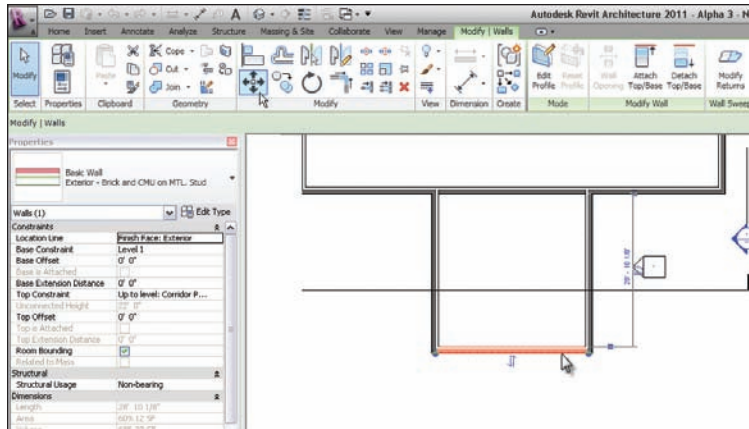

FIGURE 4.1 Select the wall to be moved. The Move button now appears on the Ribbon.
3. Select the south wall of the bump-out at the south side of the west wing, as shown in Figure 4.1.
4. On the Modify | Walls tab, you will see the Move button, as shown in Figure 4.1; click it.